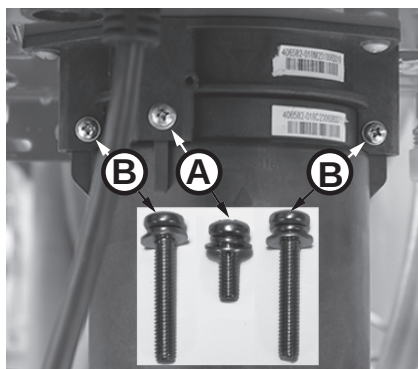

Figure 171 - Identify cartridge screws
- 6 Locate the three (3) screws securing the X3®/Bypass cartridge as shown in Figure 171. Remove the (A) M4-12mm screw and the two (B) M4-25mm screws from cartridge. Place screws aside in a safe place for reinstallation.